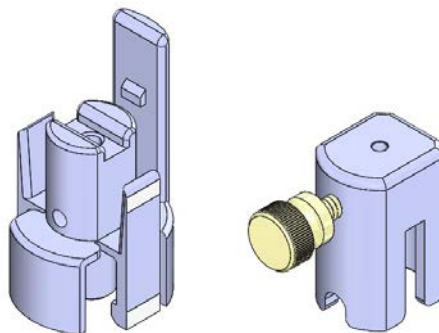

Figure 16: Dock (Left) and Device Lock (Right)
1. Remove the Dock and Device Lock from the SMARTFrame package. **See Figure 16.**